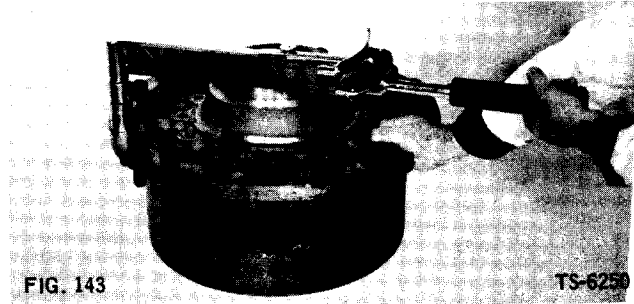

FIG. 143
1. If wheel studs were removed, replace entire set of studs with new set. Install stud nuts and tighten to 200 ft. lbs. torque (Fig. 143).